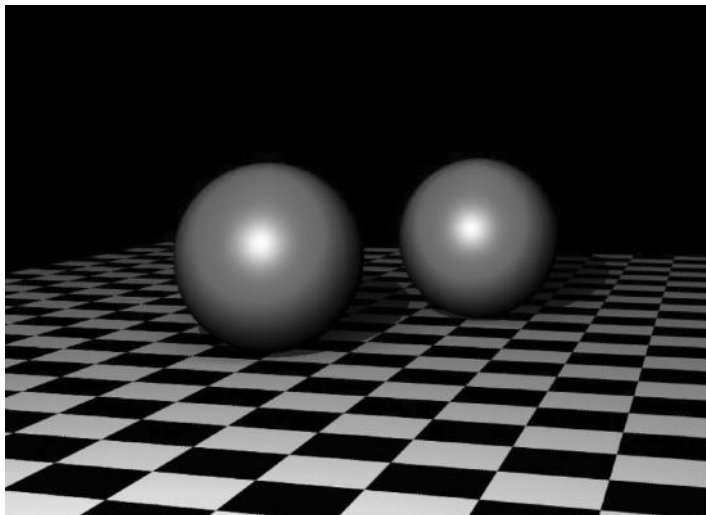

FIGURE 4.43 (SEE COLOR INSERT) Blinn shaders have more sophisticated specular controls.
**Blinn** is an addition to Phong, in that more of the specular highlight can be controlled. It allows you to control the **eccentricity**, or spread of the circular highlight, as well as the roll-off, which is how fast from the center of the circle to the edge of the circle the brightness decreases. This added flexibility creates a more realistic depiction of shiny surfaces, and is the preferred shader for specularity in Maya. In Figure 4.43, you can see the same two spheres as before, but this time with a Blinn instead of a Phong shader, and the added control over the specular roll-off increases the level of realism when rendered.